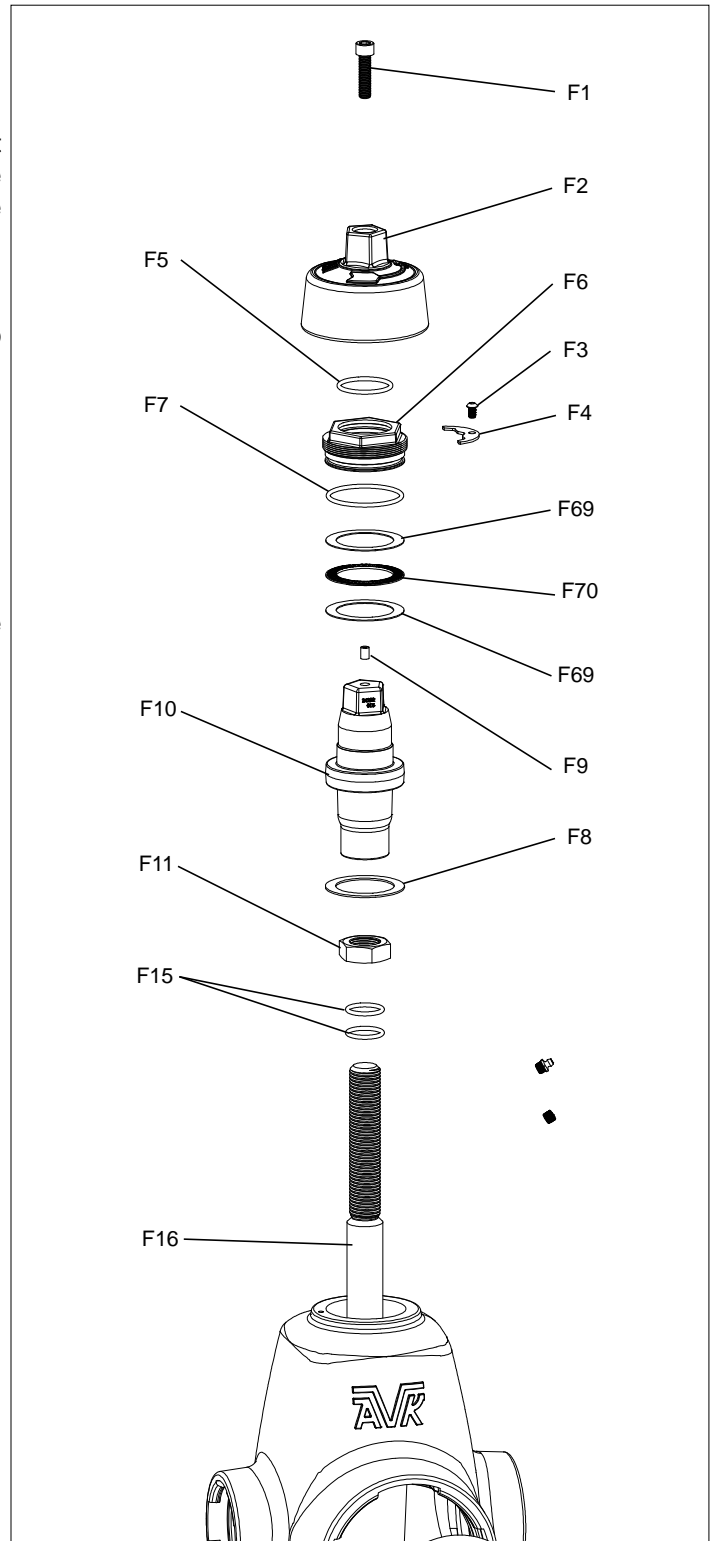

Fig. 12
7. Install the Thrust Bearing Races, (F69), and Thrust Bearing (F70), as shown in Fig. 12.